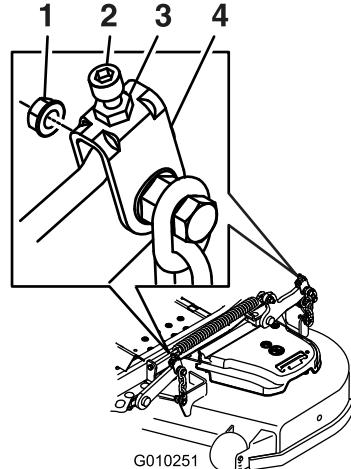

**Figure 85**
- 9. On both sides of the deck, measure from the level surface to the front tip of the blade (Position A). The measurement should read 7.6 mm (3 inches) (Figure 85).
- On both sides of the deck, measure from the level surface to the back tip of the blade (Position B). The measurement should read 8.3 cm (3 1/4 inches) (Figure 85).